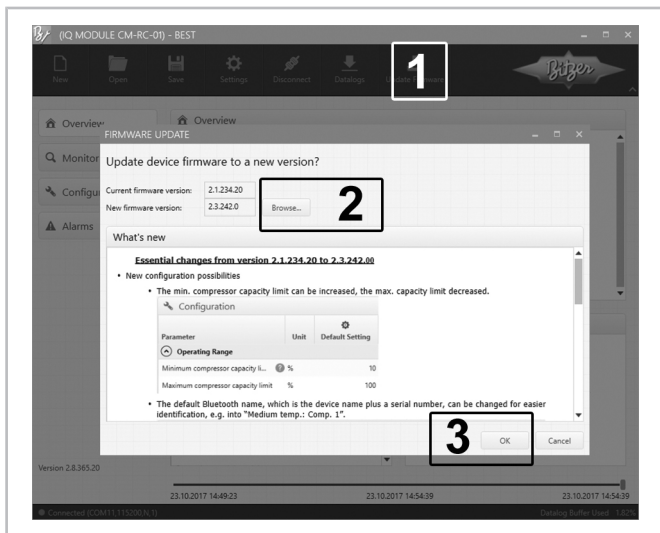

Fig. 13: Updating the firmware
- Select UPDATE FIRMWARE (1) and BROWSE... (2) (see figure 13, page 28).
- Start firmware update and wait until the successful update is confirmed. Confirm with OK (3).